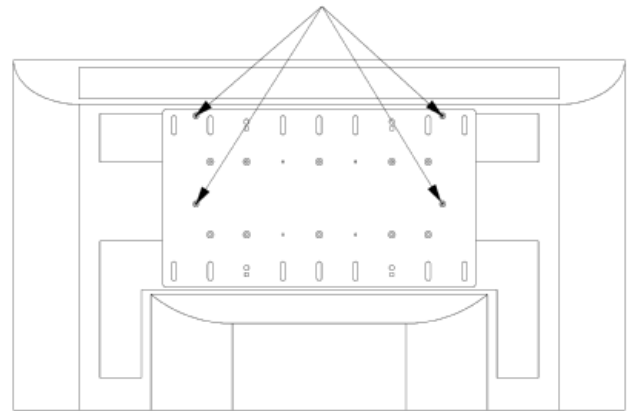

Figure 16. Display with 13.375" x 4.75" Hole Pattern
1. Select four Phillips head M4 x 50mm screws (190) and 12 spacers (180).
2. Stack three spacers (160) on top of each of the four mounting holes.
3. Place the interface bracket (20) on top of the spacers (180) previously stacked (see Step 2).
4. Attach the interface bracket (20) using the hole-pattern on the back of your display as shown in Figure 16.